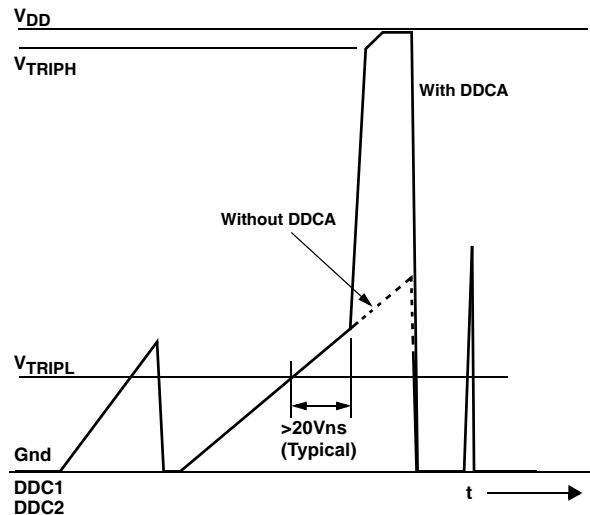

FIGURE 10. NOISE SUPPRESSION. BOOST CURRENT APPLIED WHEN INPUT SIGNAL EXCEEDS 20Vns (TYPICAL)
5. Measured as area under triangular waveform above V_{TRIPL} , with time as base and V_{IN} as height (See Figure 10).